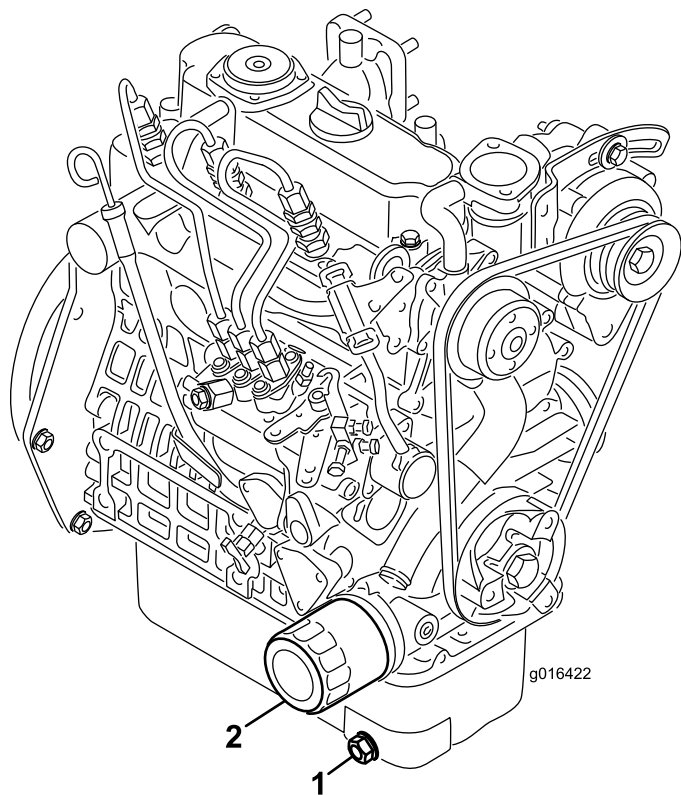

Figure 36
1. Remove the drain plug (Figure 36) and let the oil flow into a drain pan. When the oil stops, install the drain plug.